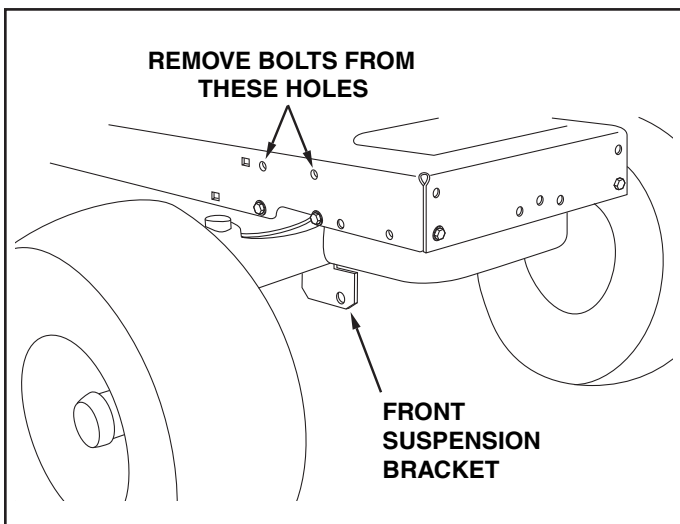

FIGURE 7
12. Remove any bolts found in the holes indicated in figure 7.